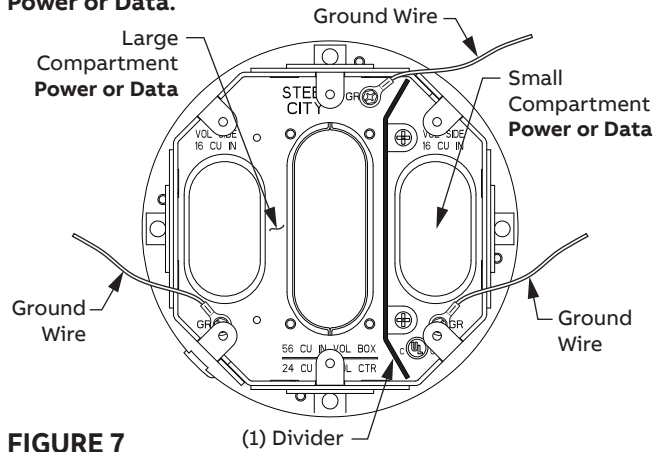

FIGURE 7
Electrical Devices may be installed BEFORE or AFTER Poke-Through is inserted into hole. Figure 13 shows Electrical Devices being installed BEFORE inserting Poke-Through into hole. For illustration, Figure 13 shows (2) gangs using Electrical Devices. (See Figure 7 Junction Box Configuration.) THHN electrical wire and electrical devices are not furnished with Poke-Through.